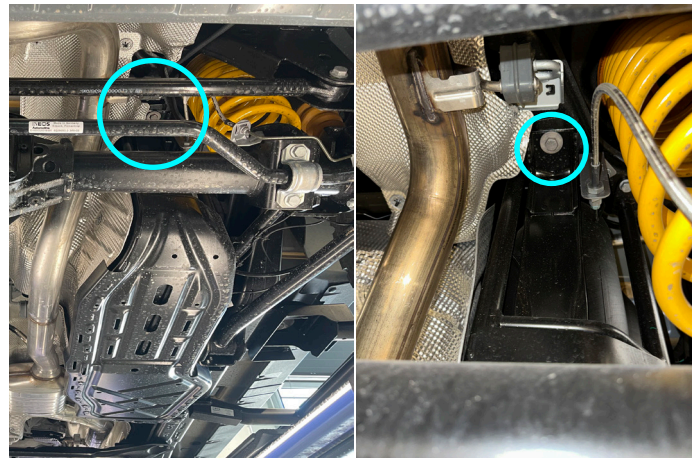

Fig. 4
4. Loosen rear factory bolt as shown in fig.4